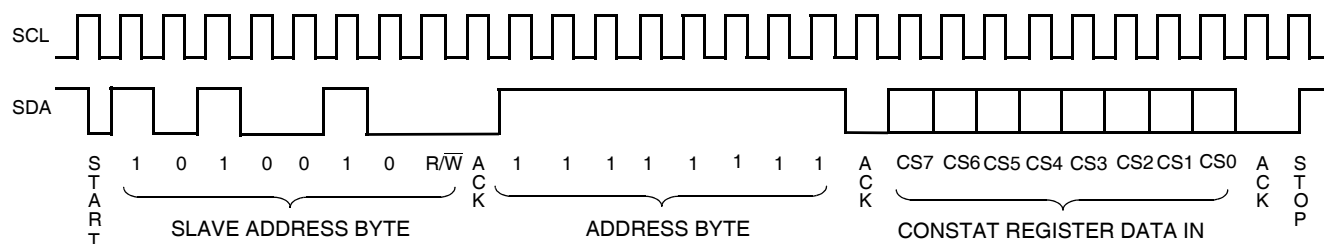

Figure 18. CONSTAT Register Write Command Sequence
Writes to the WEL bit do not cause an internal high voltage write cycle. Therefore, the device is ready for another operation immediately after a STOP condition is executed in the CONSTAT Write command sequence (See Figure 18).
- After a successful write operation to any bits of the CONSTAT register has been completed (See Figure 18).
Only one data byte is allowed to be written for each CONSTAT register Write operation. The user must issue a STOP, after sending this byte to the register, to initiate the nonvolatile cycle that stores the BP1 and BP0 bits. The X9521 will not ACKNOWLEDGE any data bytes written after the first byte is entered (Refer to Figure 18.).